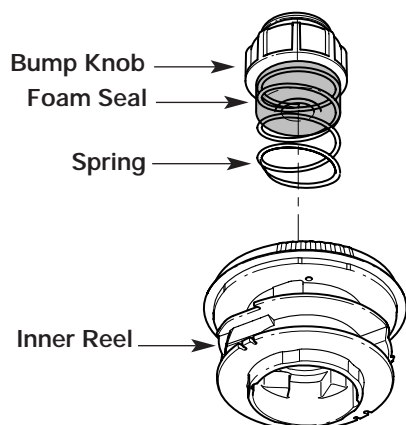

Fig. 52
1. Turn the bump knob counterclockwise and remove the bump knob, spring and foam seal (Fig. 52).
4. Hold the inner reel in place and install the bump knob, spring and foam seal. Press down and turn the bump knob clockwise. Grasp the ends and pull firmly to release the line from the holding slots in the inner reel (Fig. 52).
2. Pull out the bump knob, spring and foam seal (Fig. 52).
7. Place the bump knob, spring and foam seal into the inner reel (Fig. 52).